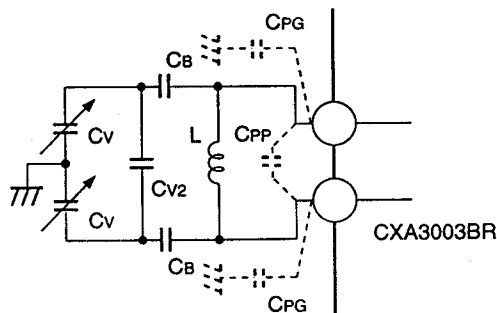

Fig. 13 VCO capacitors
The net capacitance of the tank circuit comprises a varactor diode (CV), an optional scaling capacitor connected (CV2) in parallel with the varactors, two DC blocking capacitors (CB) isolating the DC bias of the varactors from the CXA3003BR, and pin-to-pin and pin-to-ground parasitic capacitors (CPP, CPG) (shown in Fig.13). The net tank capacitance is found from